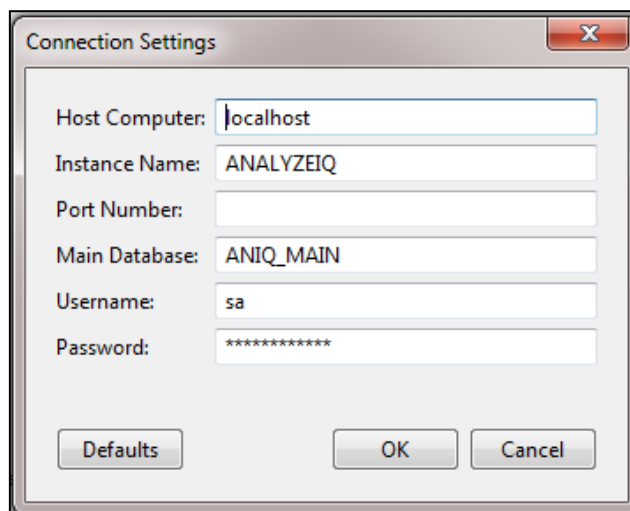

Figure 40: Database connection settings
Clicking on the connection link opens up the window shown in Figure 40. The following settings must be specified:
1. **Host Computer:** The hostname or IP address of the spectral database server. If the spectral database is located on the same computer that Analyze IQ Lab is running on, enter 'localhost', as shown in Figure 40.
4. **Main Database:** The primary database for your installation. You should not change this setting from its default value of ANIQ_MAIN, as shown in Figure 40, unless advised by Technical Support.